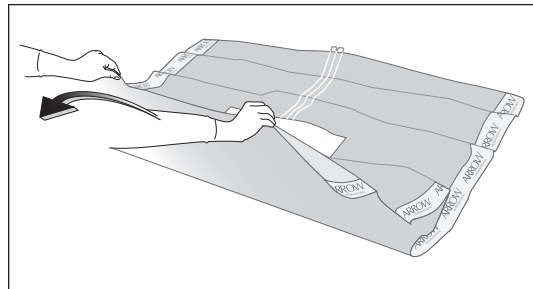

Figure 13
- Unfold towards hand (refer to Figure 13).